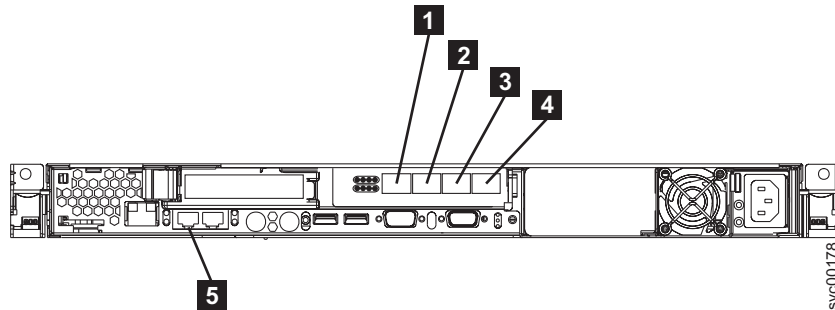
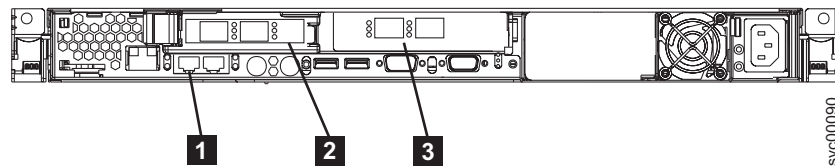

Figure 47. Connectors at the back of the SAN Volume Controller 2145-8F4
Figure 48. Connectors at the back of the SAN Volume Controller 2145-8F2
1. Connect the Ethernet cable to Ethernet port 1 **5** in Figure 47 on page 50 or Figure 48 on page 50.